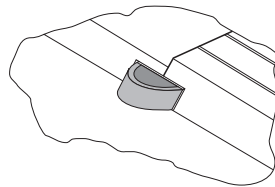

Figure 5
- Push the bolt in past the pressure point up to the stop (fig. 5)